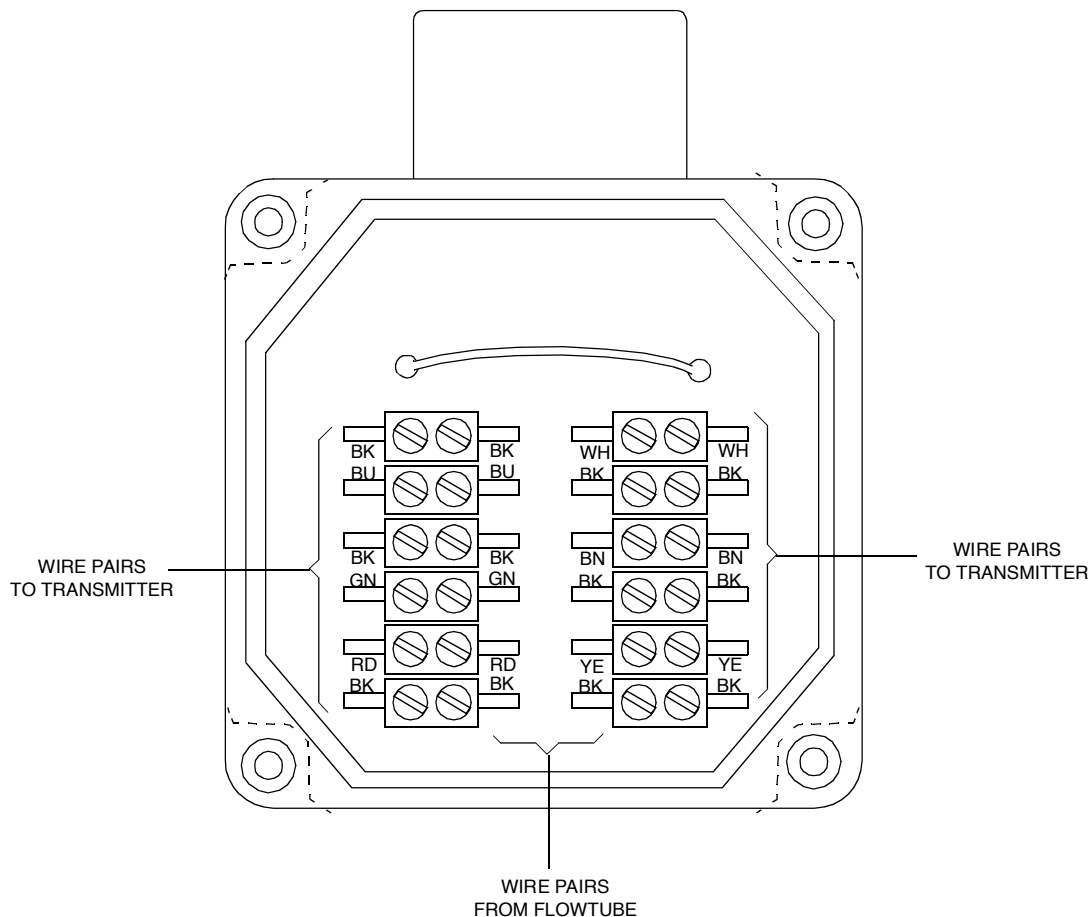

Figure 17. Style B Terminal Box Wiring Color Orientation
7. Reconnect the flowtube wiring to the appropriate terminals (see Figure 17) and tighten the screws.
2. Insert the ends of the individual wires into the appropriate terminal block openings, carefully matching the wire color pairs of the cable to the wire color pairs of the flowtube (see Figure 17). Tighten the screws. No bare wire should be visible. Dress the wiring and secure the cover to the junction box. Refer to MI 019-121 for transmitter wiring instructions.